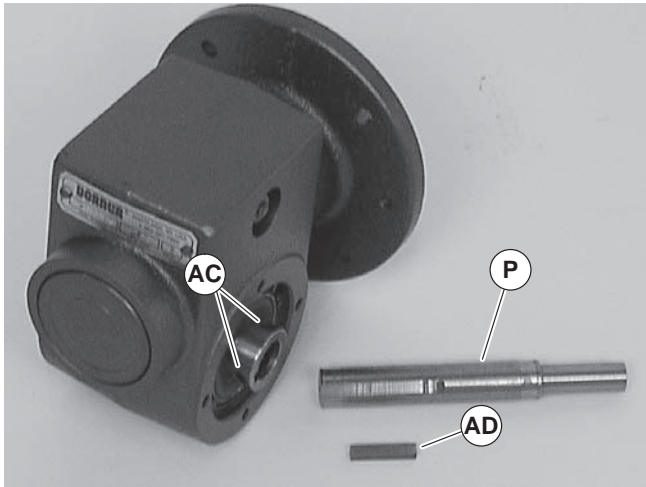

Figure 27
6. Loosen six (6) set screws (Figure 27, item AC). Remove drive shaft (P) and key (AD).
8. Replace the original shaft components into new gear reducer (see Figure 27).